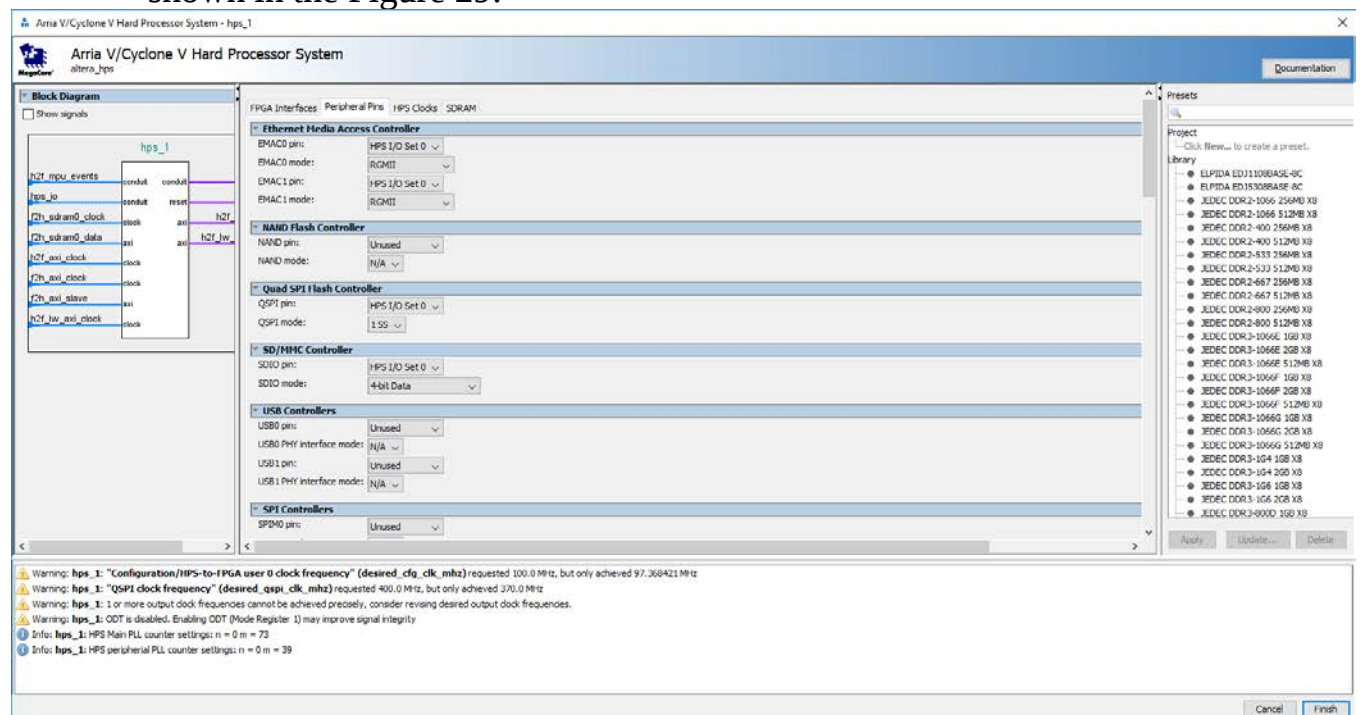

Figure 29 : Peripheral Pins of HPS
4. On Peripheral Pins tab, set the function pin and mode that is used in the design as shown in the Figure 29.